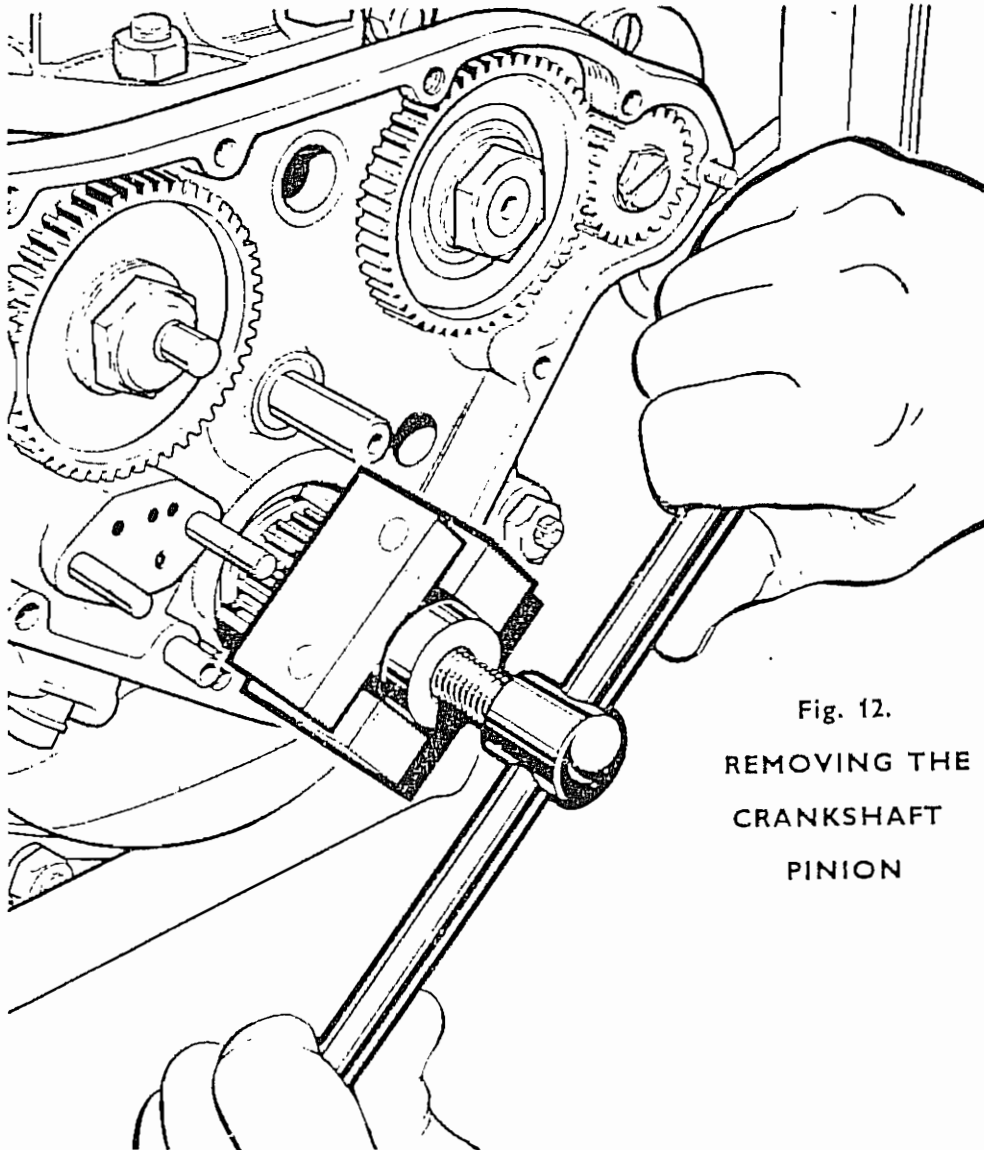

Fig. 12.
**Crankshaft Pinion.** Again a special tool must be employed to withdraw this gear from the crankshaft. Fig. 12 clearly illustrates its application. To assemble to the gear, withdraw the collar "A" from the jaws, fit the plug "C" into the crankshaft end and then fit the jaws "B" over the gear. Close the jaws and re-fit the collar to retain them in position. Now turn the tommy bar clockwise when the gear will be drawn from the shaft. Do not attempt to shock the gear off the shaft by striking the extractor tommy bar with a hammer. This method will only cause damage to the extractor jaws. Remove the key from the shaft.